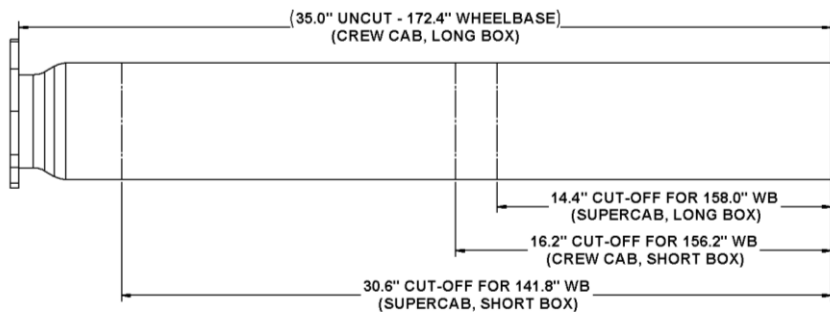

Figure 3
1. The **Extension Pipe** is pre-cut for the 172.4" (crew-cab long-box) wheelbase. Cut the **Extension Pipe** to the appropriate length for the installation vehicle. **Refer to Figure 3.**